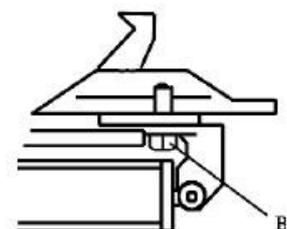

Fig 22
**Note:** After the first 20 days of use, retighten the jaws with tightening screws (B) on the Turntable (Fig 22)